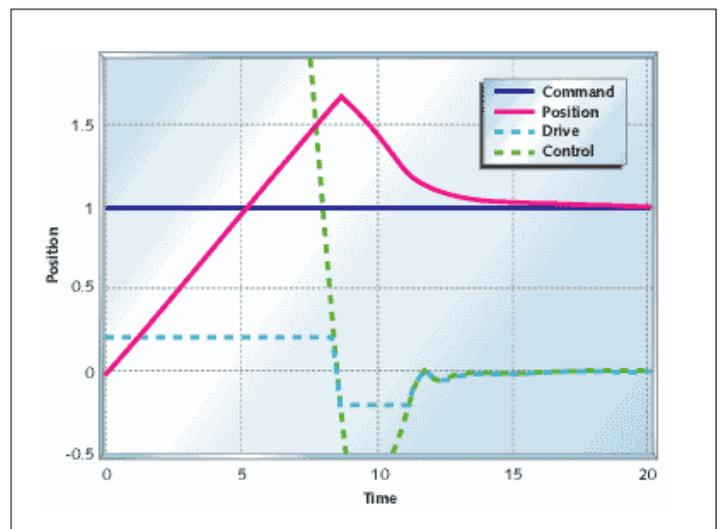
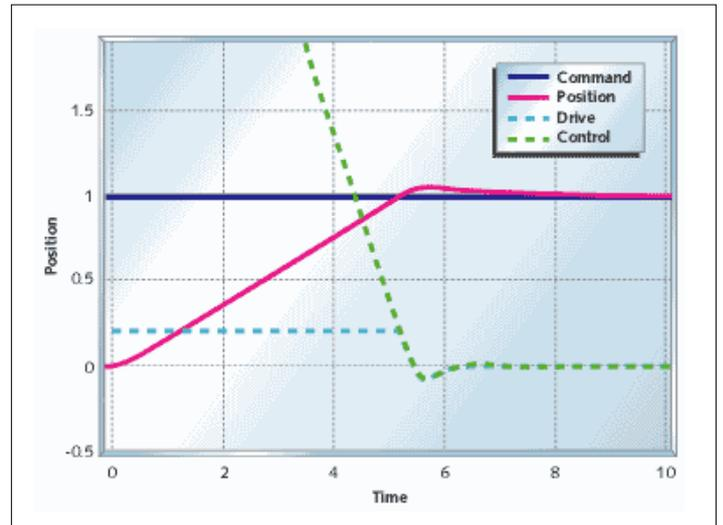

Figure 15
Figure 16
**Figure 15** illustrates the effect of integrator windup. I used the
The easiest and most direct way to deal with integrator wind-up is to limit the integrator state, as I showed in my previous code example. **Figure 16** shows what happens when you take the system in Figure 15 and limit the integrator term to the available drive output. The controller output is still large (because of the proportional term), but the integrator doesn't wind up very far and the system starts settling out at five seconds, and finishes at around six seconds.
of saturation until the control system has effectively settled out. If you look at Figure 16, the controller comes out of saturation at about 5.2s, and has settled out at around 6.2s. If you can live with the one second settling time you could get away with a sampling rate as low as 10Hz.